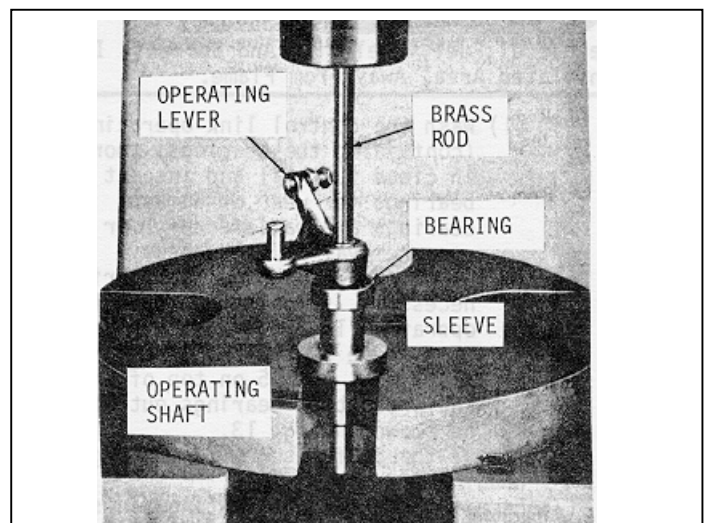

Fig. 12
- (k) Support the operating shaft, lever, bearing and sleeve on a large washer or plate, with a 5/8" hole on the bed of an arbor press, as shown in Fig. 12. Place a small brass rod on the end of the shaft and press the operating shaft out of the operating lever and bearing. Catch the shaft by hand when pressed from the lever and bearing to prevent it from falling and being damaged.